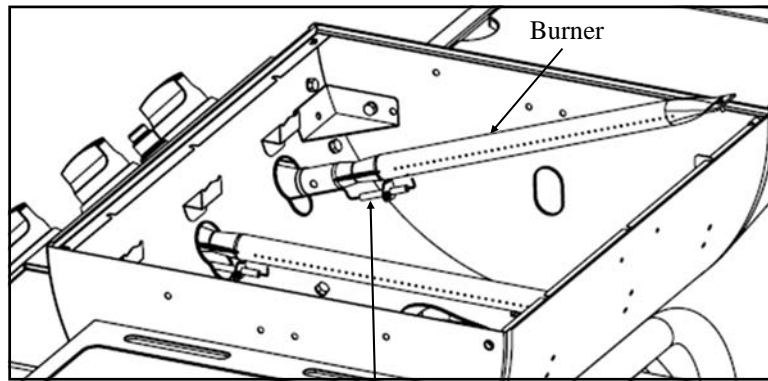
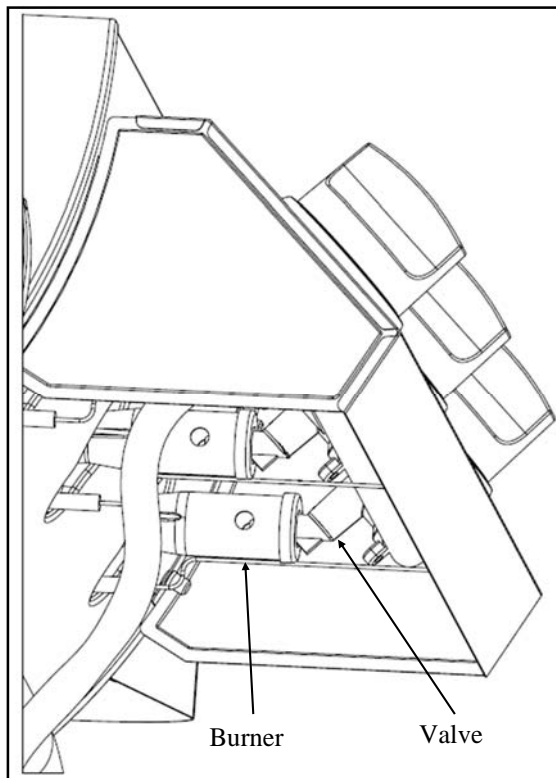

Figure 12A Igniter with Wire
Figure 12B
Step 12: Install the Burners into the Grill Body by inserting the IGNITER WIRES and Burners through the open holes at the front of the Grill Body from inside of the Grill Body, see figure 12A. (**NOTE: IGNITER MUST BE ON BOTTOM SIDE OF BURNER**). The BURNER with the longer wire goes on the right side of the GRILL BODY. Making sure that the Valve goes inside each burner, see figure 12B. Then secure the Burners to the Grill Body with the screws provided, see figure 12C.